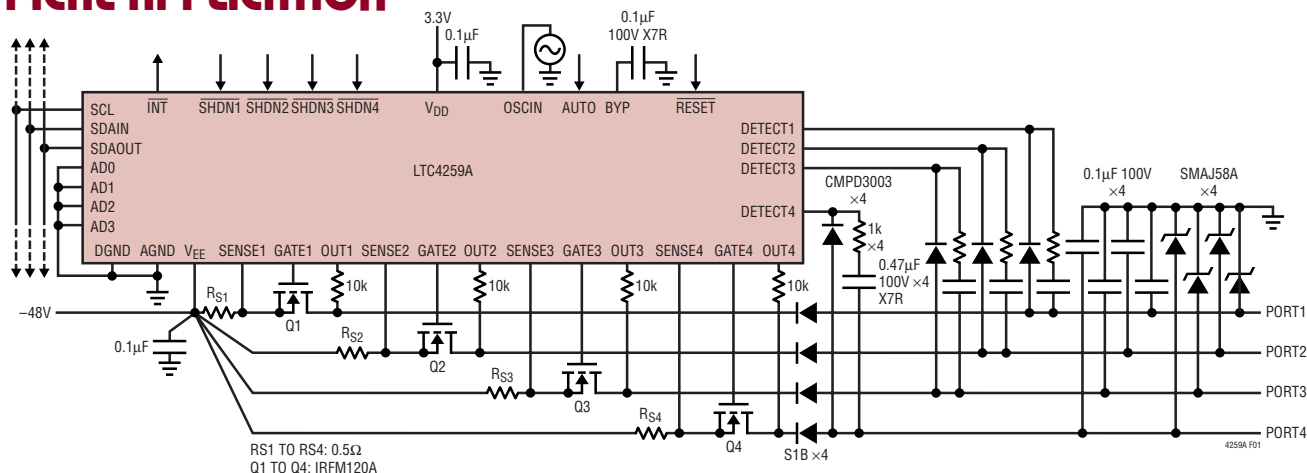

Figure 1. Complete 4-Port Powered Ethernet Power Source
The LTC[®]4259A is a quad –48V Hot Swap[™] controller designed for use in IEEE 802.3af compliant Power Sourcing Equipment (PSE). It consists of four independent ports, each with output current limit, short-circuit protection, complete Powered Device (PD) detection and classification capability, and programmable PD disconnect using AC or DC sensing. Used with power MOSFETs and passives as in Figure 1, the LTC4259A can implement a complete IEEE 802.3af-compliant PSE.